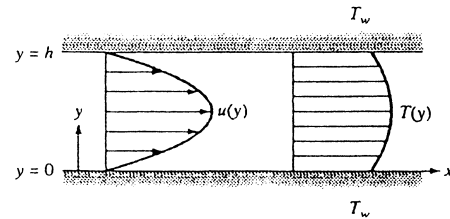

Fig. P4.40
**4.40** As mentioned in Sec. 4.11, the velocity profile for laminar flow between two plates, as in Fig. P4.40, is